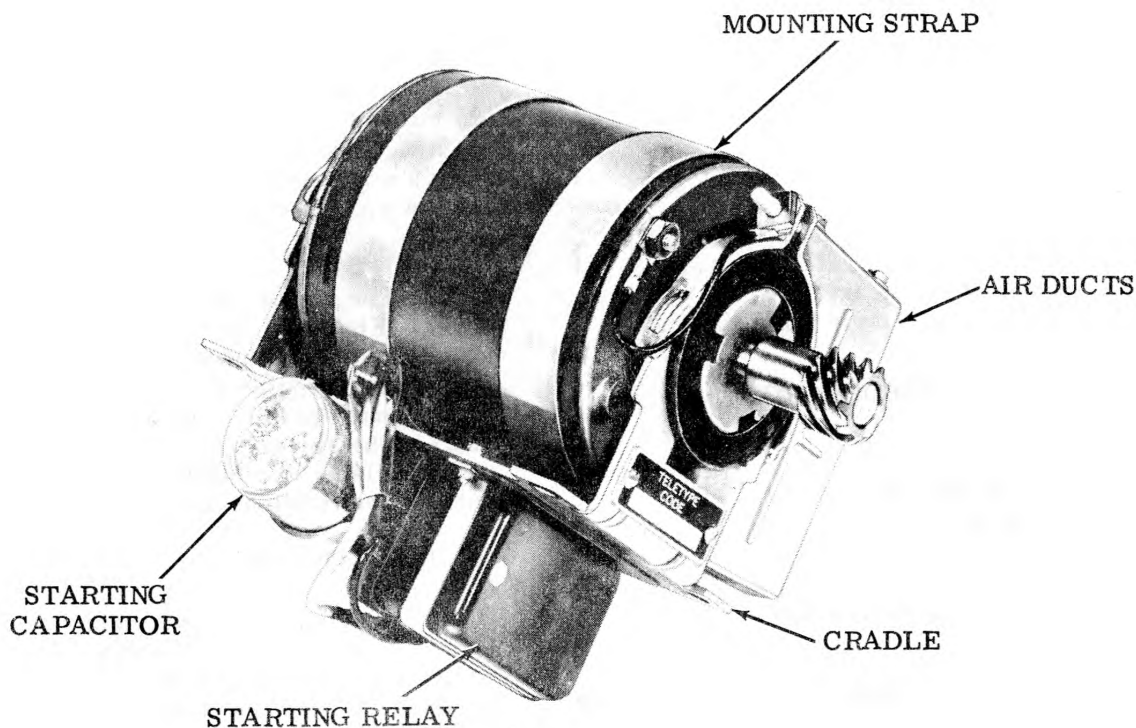

Figure 1 - Typical Miniature Synchronous Motor Unit
1.03 The synchronous type motor units (Figures 1 and 2) are available in miniature (25 millihorsepower), standard, and heavy duty ratings. These motor units must be operated from a standard, single-phase, regulated power source with specifications as listed in Tables I and II.
A. Miniature Synchronous Motor Units (Figure 1)